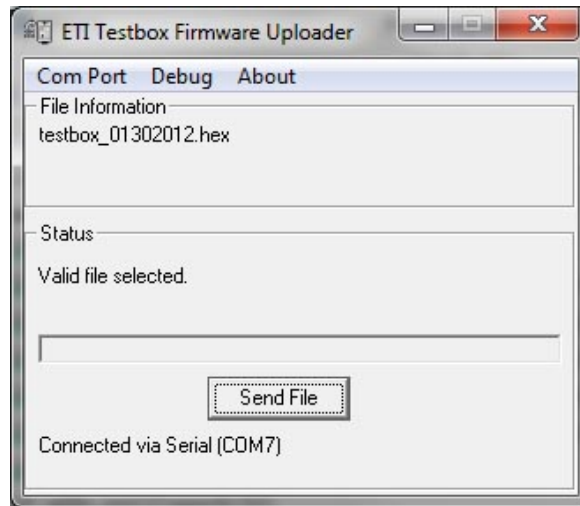

Figure 3
3. Start the ETI Testbox Firmware Uploader program. A screen similar to that shown in Figure 3 should appear.